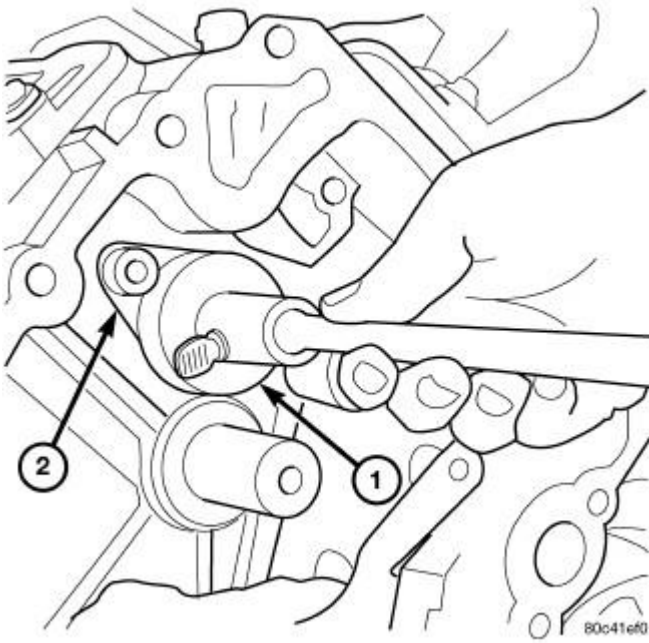

Fig. 92: Removing/Installing Counterbalance Shaft From Engine
2. Using the Counterbalance Shaft Remover/Installer (special tool #8641, Remover/Installer) (1), carefully install counterbalance shaft into engine. Refer to **Fig. 92**.